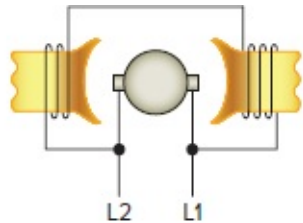

Figure 2-27 Parts of a DC compound motor.
Figure 2-27 shows the symbols used to identify the basic parts of a direct current (DC) compound motor. The rotating part of the motor is referred to as the armature; the stationary part of the motor is referred to as the stator, which contains the series field winding and the shunt field winding. In DC machines **A1 and A2** always indicate the armature leads, **S1 and S2** indicate the series field leads, and **F1 and F2** indicate the shunt field leads.